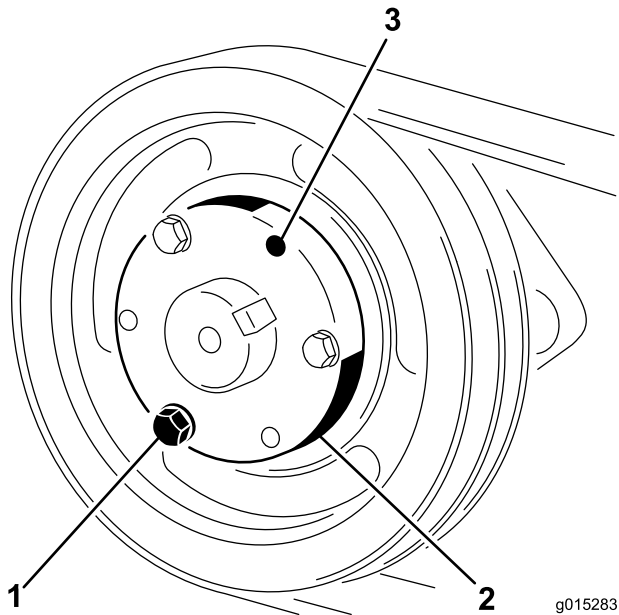

Figure 31
1. Remove the bolts and lockwashers one at a time and screw them into the adjoining holes (Figure 31).